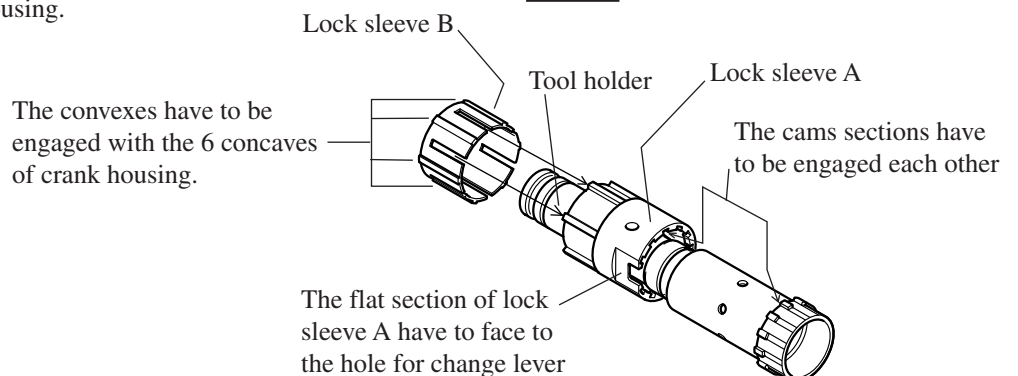

Fig.23
3. When pressing tool holder into straight bevel gear 33, the cams on tool holder and the same of straight bevel gear 33 have to engage each other. (see Fig. 23)
* Adjust the cams of lock sleeve A to the same of tool holder. (see Fig.23)